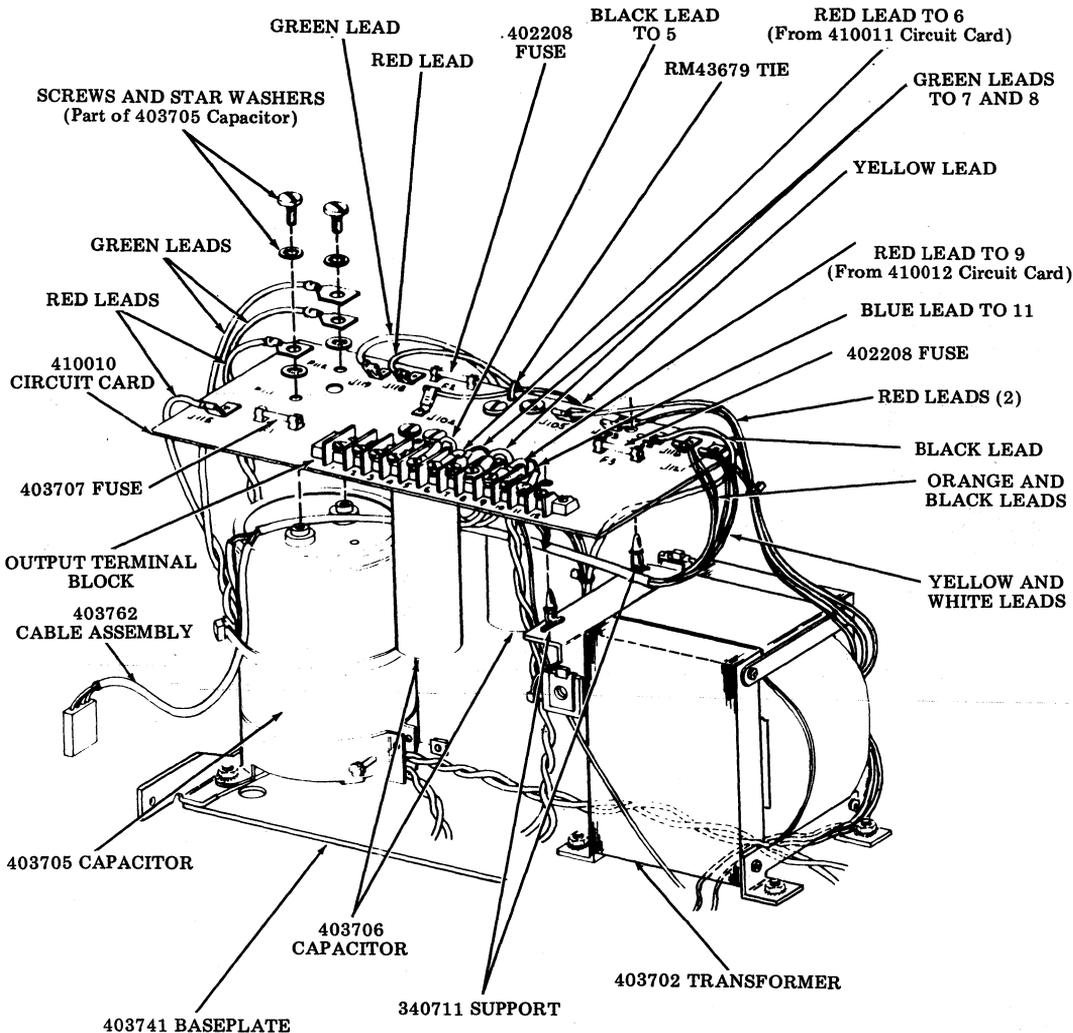

Fig. 32
- 3.03 To remove 410010 ac/dc circuit card (Fig. 32):
- (b) Make sure all leads to 410010 circuit card are twisted as shown in Fig. 32.